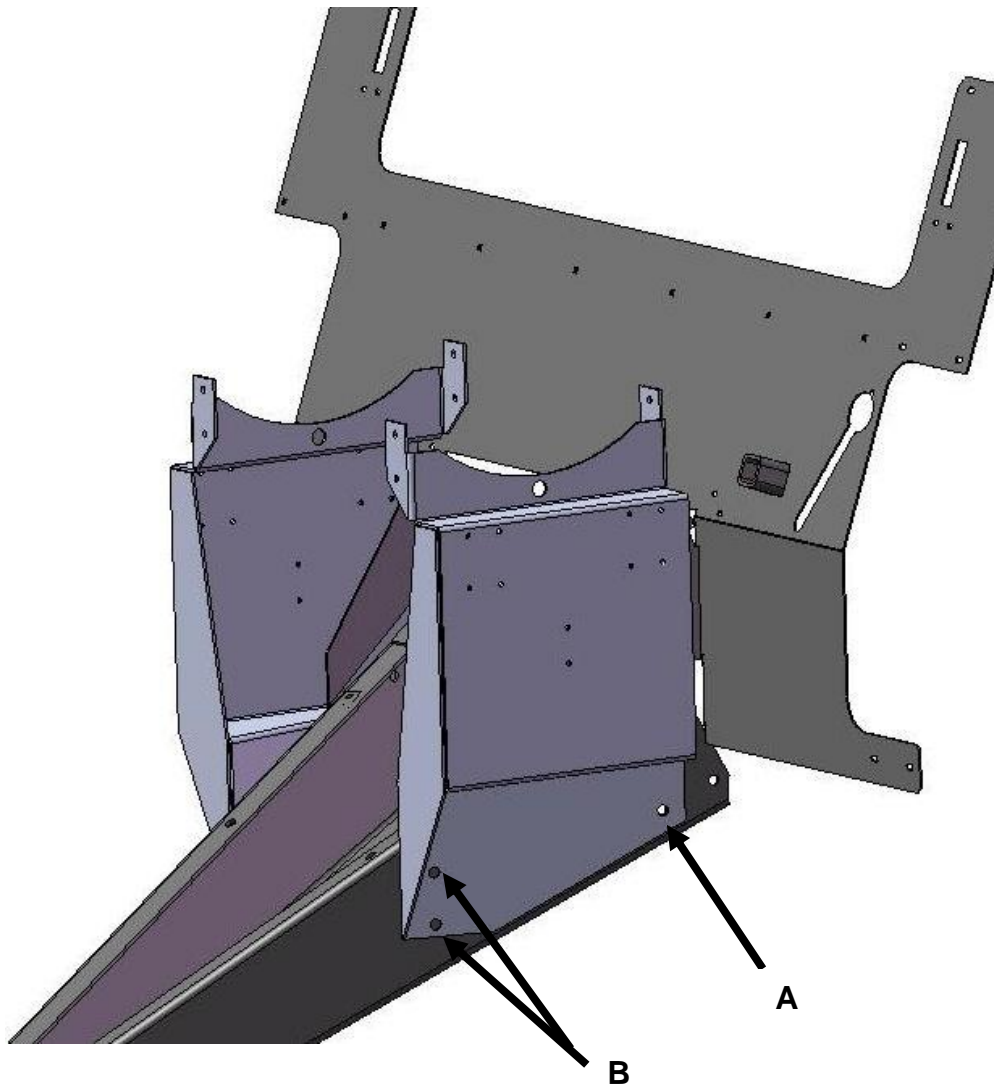

Figure 7
Locate legs part #001-4703FL and part #001-4703FR. These legs will attach to the tongue of the baler using the one existing hole per side (A) as shown in Figure 7. Loosely attach the legs to (A) and mark the two holes that will need to be drilled (B) with a 9/16" bit. Attach legs loosely using the two existing bolts and lock nuts and four 1/2" x 1-1/4" bolt, nuts, locks and flat washers. Install tank and saddle assembly. Tighten all leg hardware after the tank has been installed.